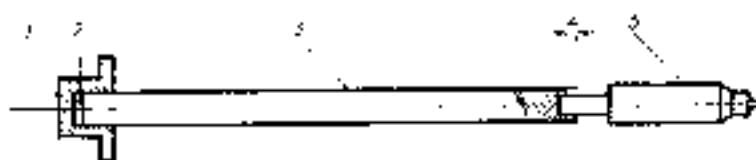

Fig. 47.
14. After having checked the belt pulleys for correct alignment (see Fig. 47) permissible out-of-line of the belt pulleys ± 0.7 mm or 0.07" maximum, tighten the adjuster screw of the dynamic belt drive shaft.